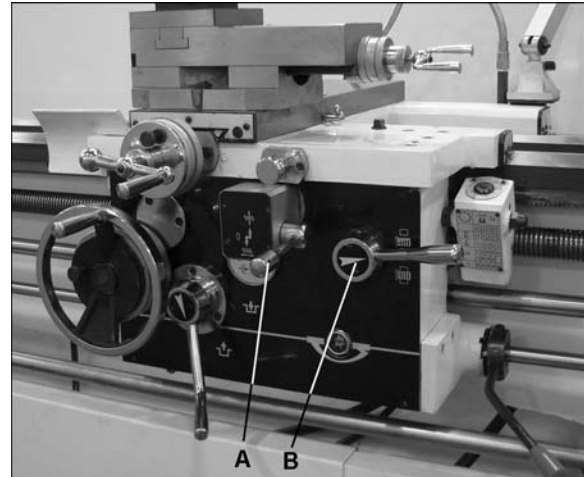

Figure 23
4. Set selector lever (A, Figure 23) to correct position (neutral).
5. Engage the half nut lever (B, Figure 23).